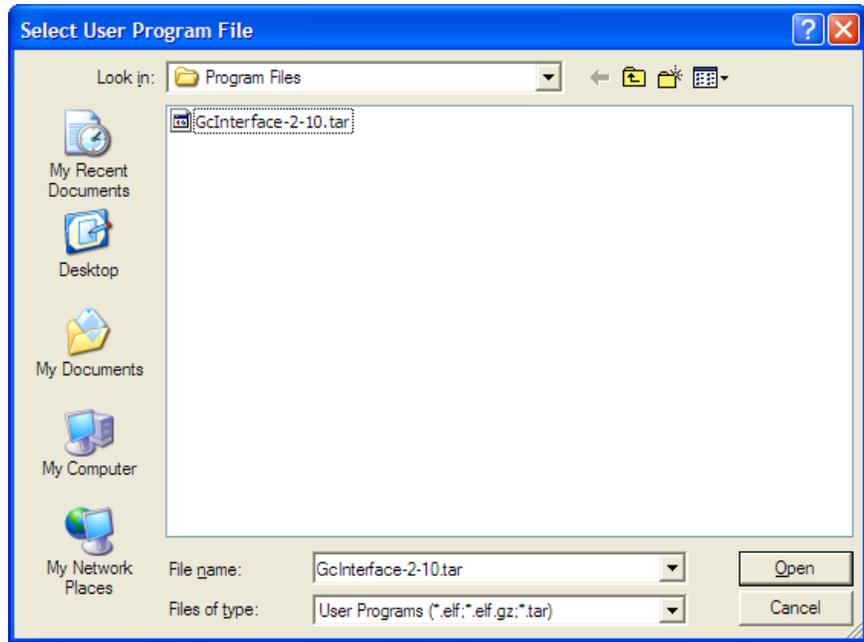

Figure 10. Select User Program File
6. Click **Browse** in the Download User Program File frame. The Select User Program File screen displays (see Figure 10).
7. Select the path and user program file to download from the CD-ROM. (Program files are typically located in the Program Files folder on the CD-ROM). As Figure 10 shows, the screen lists all valid user program files with **.tar** extension: